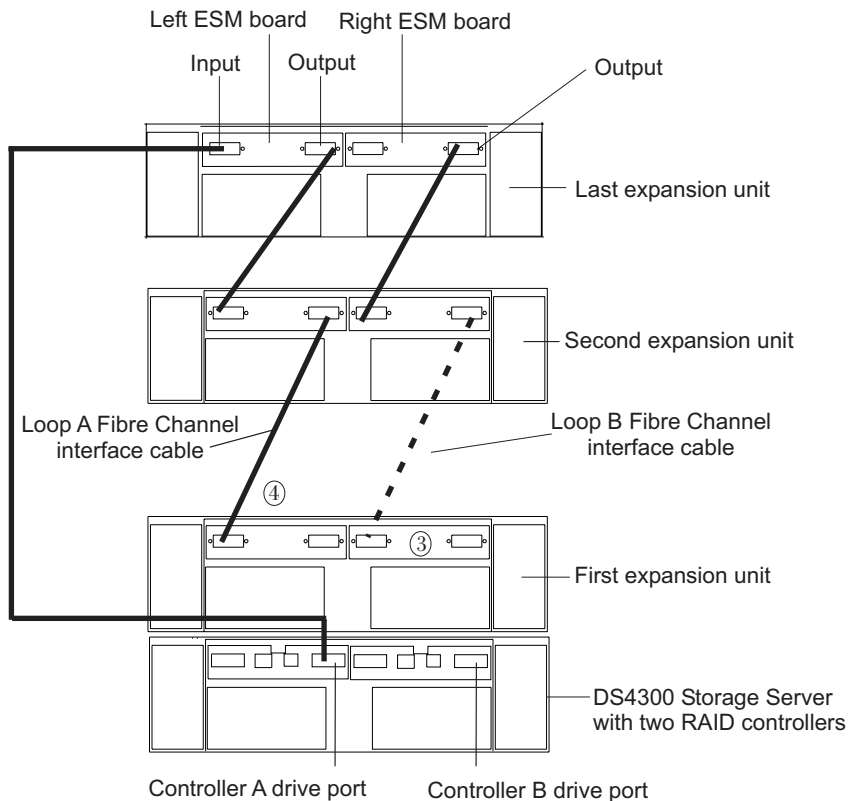

Figure 61. Disconnect the remaining fibre channel cables from the first ESM in the disconnected drive loop
- a. Disconnect any fibre channel cables from the first ESM (marked 3 in Figure 61) that you will replace in the disconnected drive loop. Leave in place the fibre channel cables connected to the other ESMs in the disconnected drive loop. In Figure 61, the cable to be removed is shown with dashed lines and marked 2.
- b. Replace the disconnected DS4000 EXP700 ESM (marked 3 in Figure 61) with one of the upgrade ESMs you received in the DS4000 EXP700 Models 1RU/1RX Switched-ESM Option Upgrade Kit. Follow the steps for replacing an ESM in “Replacing a failed hot-swap ESM” on page 70.
12. Repeat steps 6 through 10 to upgrade the ESMs in the second drive loop. Begin by disconnecting the fibre channel cable that connects the left-hand storage server controller drive port to the first storage expansion enclosure (marked 4 in Figure 61 on page 90) . You will reconnect this cable only after you have replaced all the ESMs to be upgraded in the second drive loop.